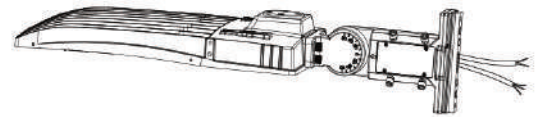

Figure 10
Step 2: Install the bracket on the fixture, then cover the side lid and tighten it. (Figure 10)